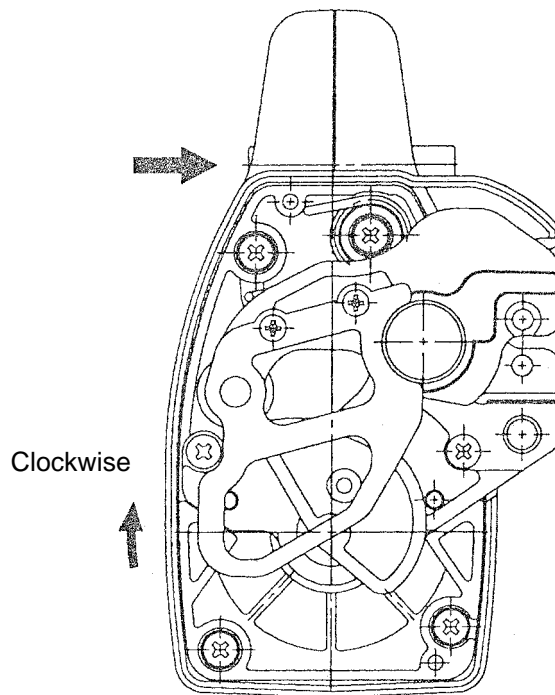

Fig. 43 Rotating direction of the Cam Shaft [67]
- (i) Check that the Cam Shaft [67] rotates clockwise as shown in Fig. 43 by depressing the trigger switch.
- (ii) Pressing the Pushing Button (A) [3] to the  position, depress the trigger switch. Check that the Cam Shaft [67] rotates counterclockwise (in the reverse direction of Fig. 43).
- (iii) Check that the Pushing Button (A) [3] returns to the original position when releasing the Pushing Button (A) [3].